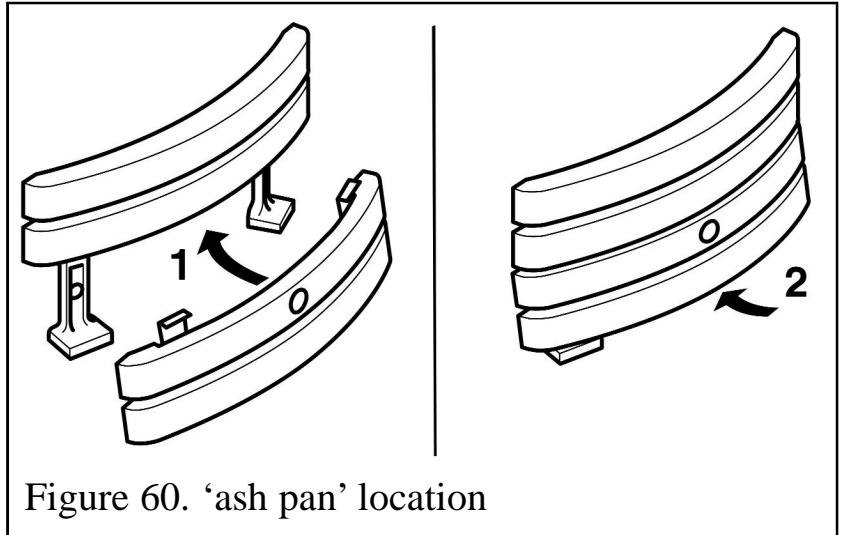

Figure 60. 'ash pan' location
4. The 'ash pan' casting should be located as in figure 60.